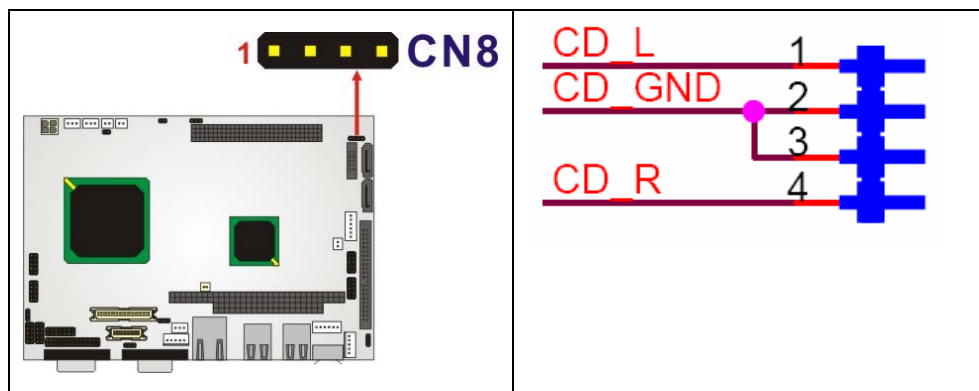

Figure 4-5: CN8 Connector Location
- CN Location:** See **Figure 4-5**